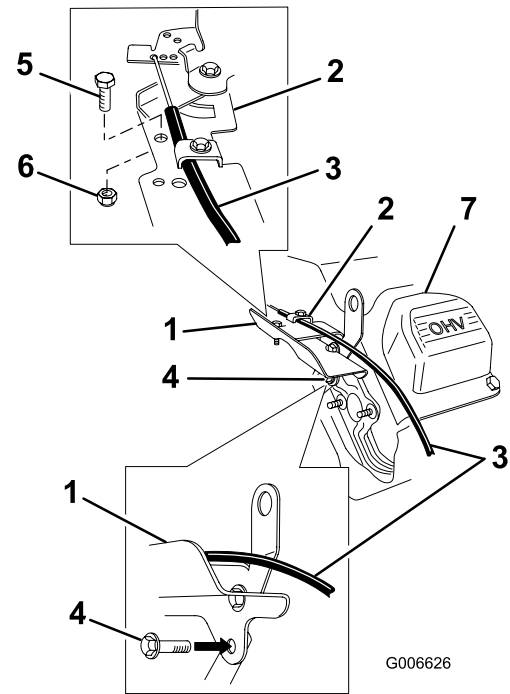

Figure 1
1. Remove the bolt below the cable bracket that is installed to the engine (Figure 1).
2. Install the cable heat shield below the cable bracket using the bolt removed in step 1 (Figure 1).
3. Install the bolt (1/4 x 3/4 inch) in the top of the cable bracket and into the cable heat shield (Figure 1).
4. Secure the bolt (1/4 x 3/4 inch) using the locknut (1/4 inch) as shown in Figure 1.